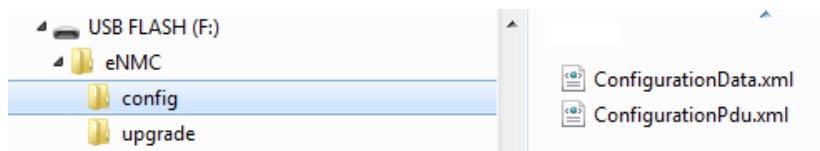

Figure 69. Example USB Root with eNMC Config Directory
7. Click **OK** to continue when a successful pop-up message displays the following see Figure 69):